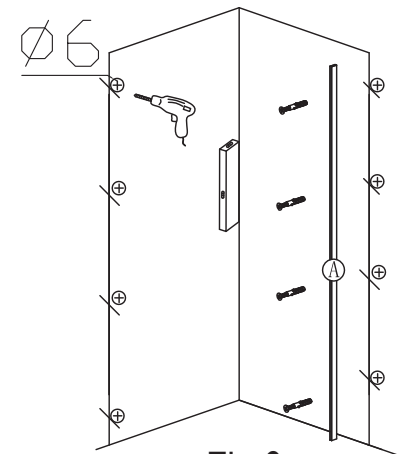

Fig.3
2. (Fig.3) Mark drilling positions on the wall as per the size of your shower enclosure, referring to the Fig.3 mount aluminum wall channel (item E) using ST4*32 (item F) screws with wall plugs. Pay special attention to the location of water pipes and electricity cables.